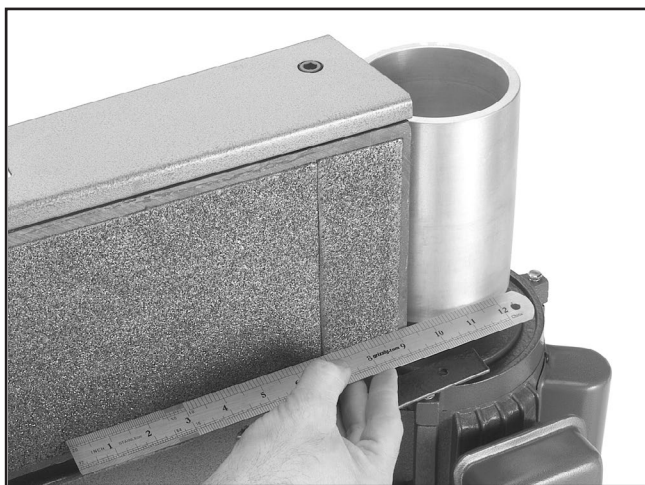

Figure 56. Example of checking bottom of platen-to-roller.
4. Now place the straightedge across the BOTTOM part of the platen graphite and the main roller, as shown in **Figure 56**. Measure the gap, if there is one, between the straightedge and the main roller.